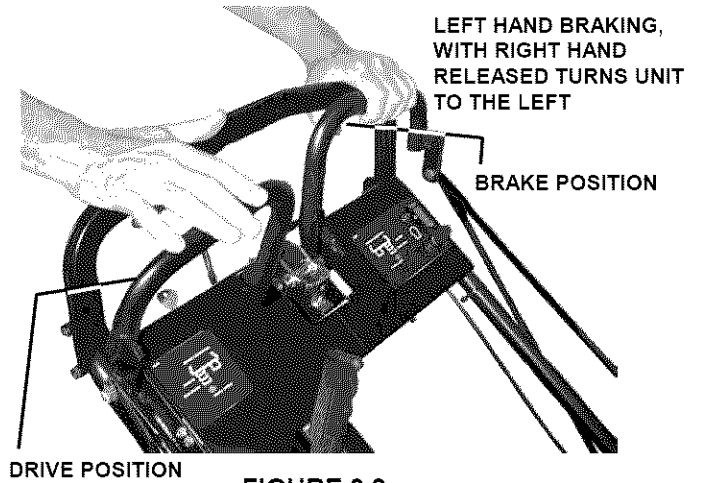

FIGURE 3.9
- The machine is **TURNED** by squeezing either the left or right Traction Lever. Squeezing the control declutches the drive belt and applies a brake. Turn left by squeezing the left Traction Lever or turn right by squeezing the right Traction Lever. See Figure 3.9. The more pressure applied while squeezing the traction lever, the sharper the machine will turn.